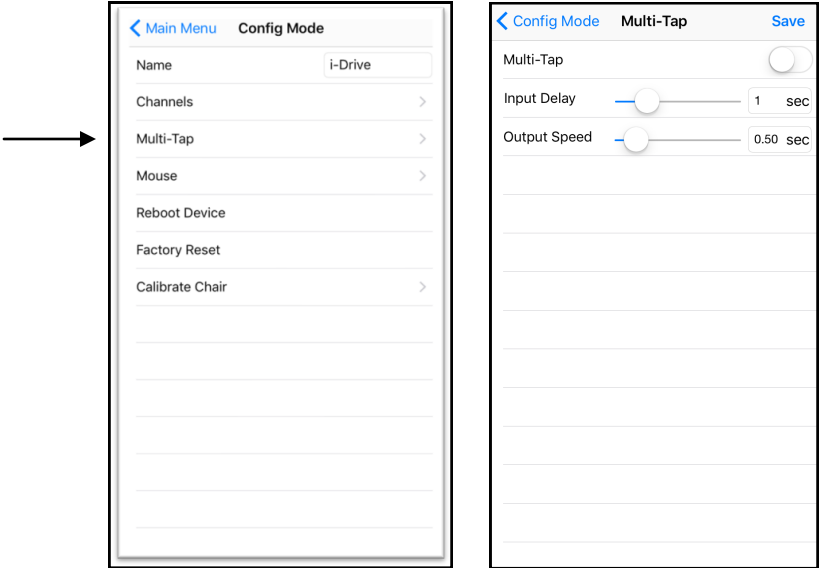

Figure 7
- 2. Under the *Multi-Tap* setting, *Input Delay* and *Output Speed* can be adjusted. Move the cursor to the right or left to make adjustments. (*Figure 7*)